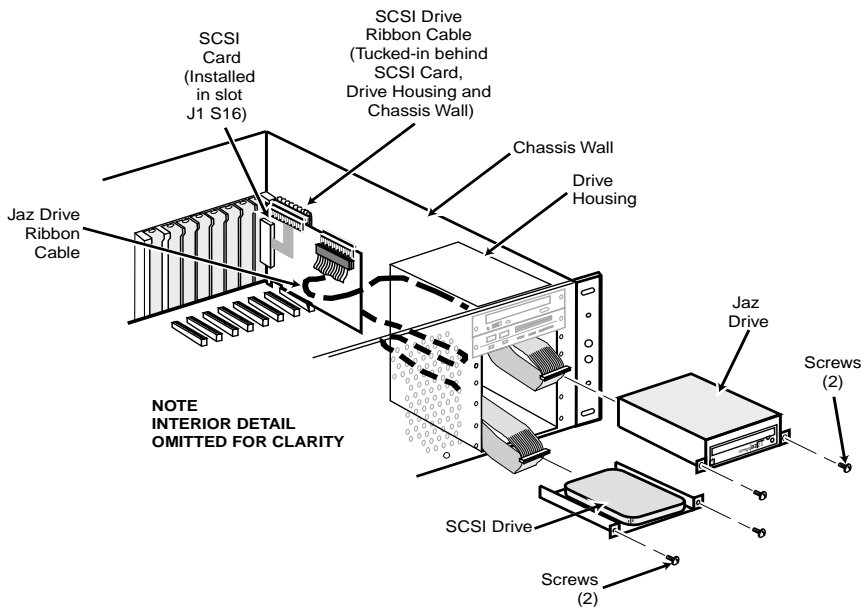

Figure 5-7. SCSI Drive and Jaz Drive Installation
- [] 4. Secure tray with screws (2). See Figure 5-7.
- [] 2. Connect the other end of the Ribbon Cable to the Jaz Drive in the Drive Housing. Leave enough slack in the Ribbon Cable for installation. See Figure 5-7.